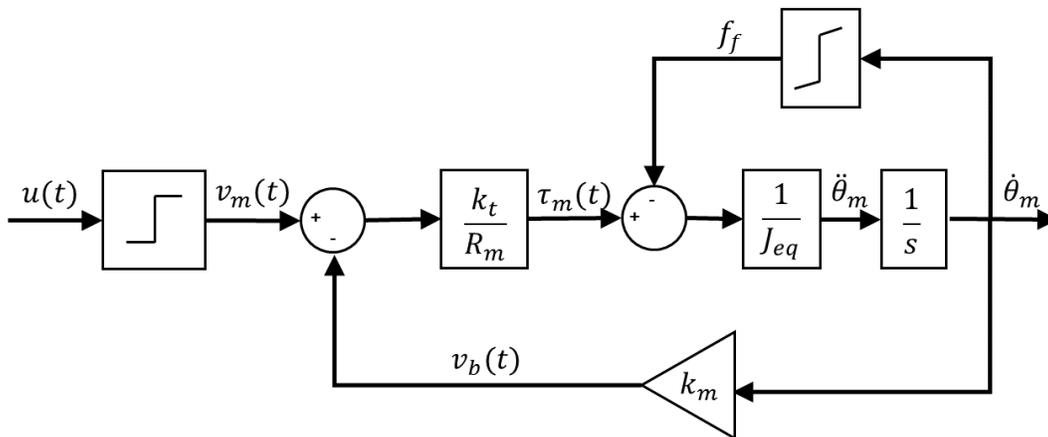

Figure 1.1: DC motor model with amplifier limit and Coulomb and viscous friction
The other main nonlinearities are due to Coulomb friction and quantization in the encoder. The block diagram of the DC motor shown in Figure 1.1 incorporates the amplifier limitation and the static friction nonlinearities. Encoder quantization and the associated noise was investigated in Filtering laboratory experiment.
3. Using the diagram of the QUBE-Servo 2 shown in Figure 1.1 and the various equations, complete the block diagram in Simulink, similarly as done in Block Diagram Modeling laboratory experiment using Gain, Subtract, and Integrator blocks. Part of the solution is shown in Figure 2.3. Attach a screen capture of the completed Simulink model.